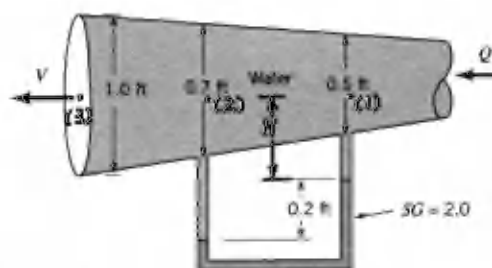

FIGURE P3.10R
3.10R (Bernoulli/continuity) Water flows steadily through a diverging tube as shown in Fig. P3.10R. Determine the velocity,  $V$ , at the exit of the tube if frictional effects are negligible.